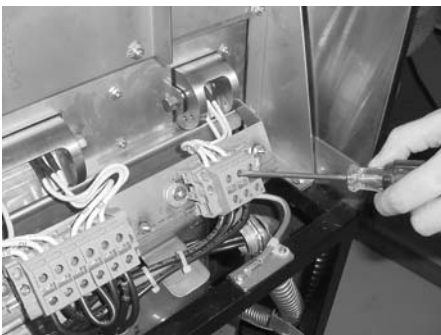

Figure 2-50
3. Using a flat-head screwdriver, remove the appropriate wires from the terminal blocks. Figure 2-50.